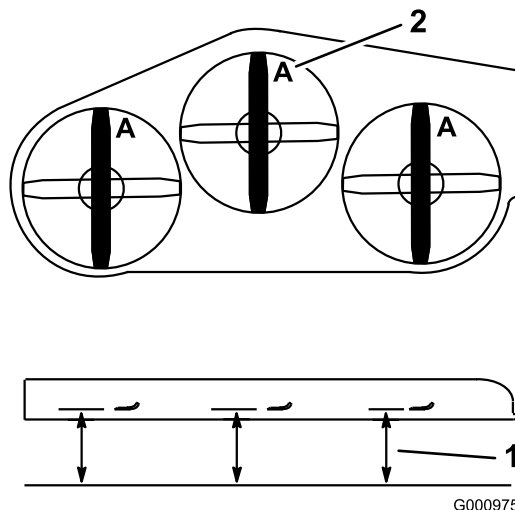

Figure 76
4. Measure from a level surface to the cutting edge, position A, of the blades (Figure 76).